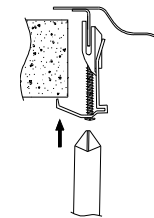

Fig 3.
10. Fix the sink to the worktop by tightening the screws on the fixing clips clockwise (fig. 3) using a crosshead screwdriver, the sink frame will pull down tight and flat to the top surface of the worktop.